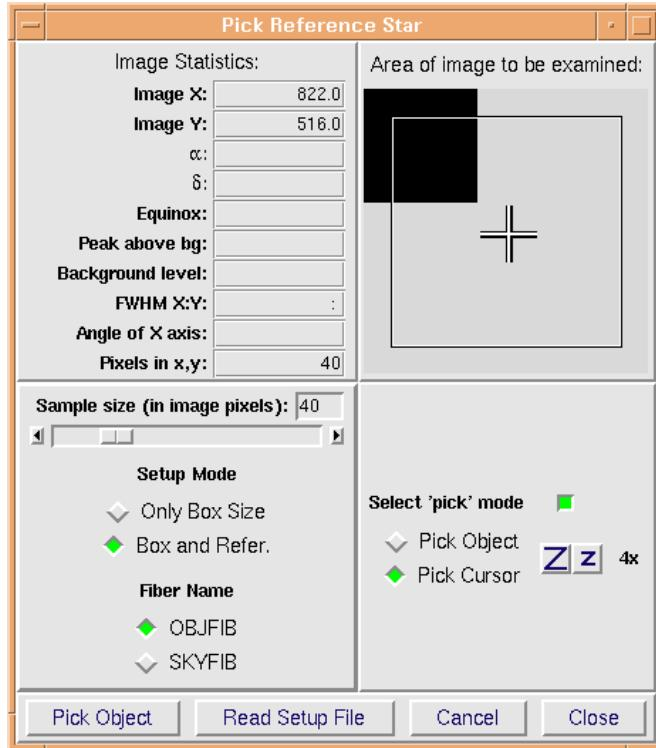

Figure 6.3: Window to set FEROS fibre reference position Pick Reference Star. Select checkbox Pick Cursor.
- a. Open or activate window **Pick Reference Star** (Fig. 6.3, p. 59).